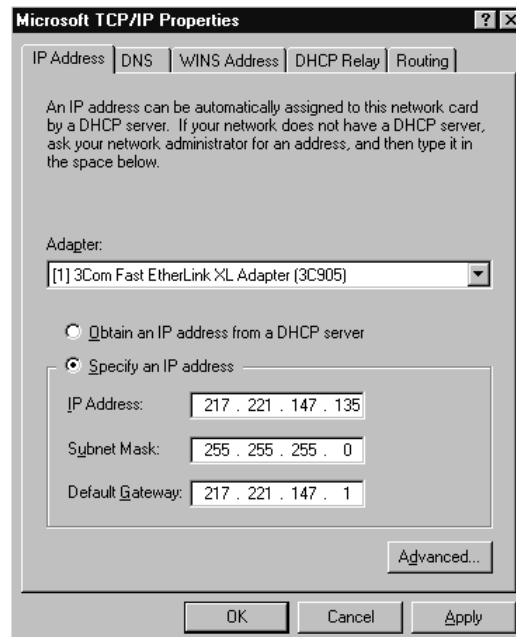

Figure 5-19. TCP/IP Properties
- Click **Close** to end network configuration. Windows NT will perform an automatic bind process. TCP/IP Direct Connect is bound to Microsoft's TCP/IP stack on the server. When Windows NT attempts to perform this bind, the standard Microsoft TCP/IP Properties dialog box will display (Figure 5-19).